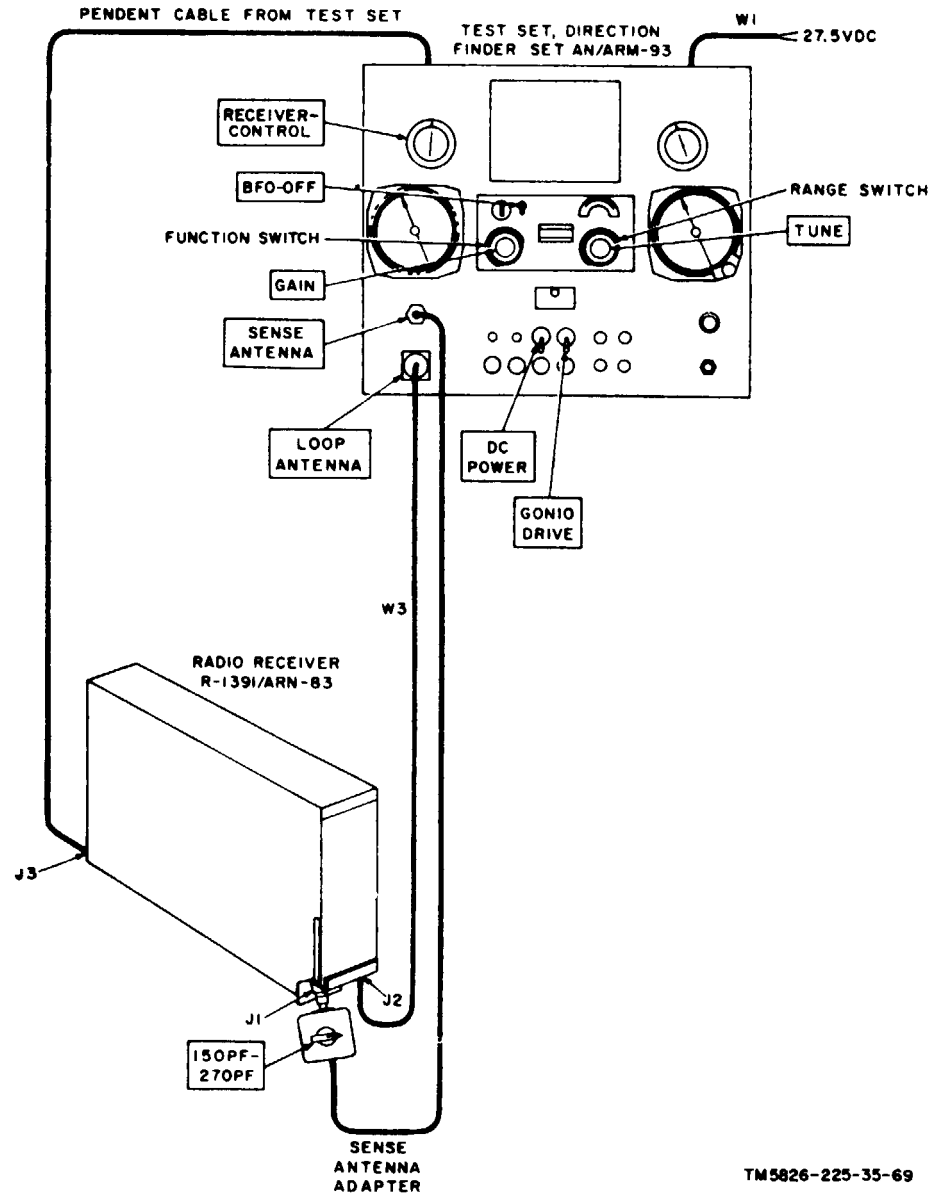

Figure 4-6. Receiver tuning and switching time test.
- (1) Test Set, Direction Finder Set AN/ARM-93.
- (2) Stopwatch.
b. Test Connections and Conditions. Connect the test equipment as shown in figure 4-6.